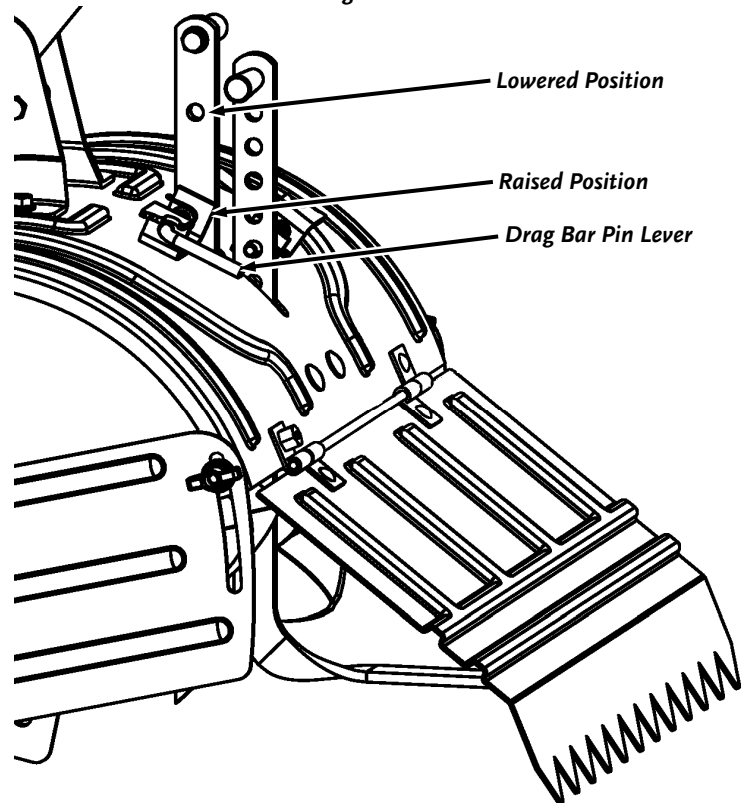

Figure 11
The drag stake (see Figure 11) should be raised when tilling in the counter rotating () till position. The drag stake should be lowered when tilling in the forward rotating () till position.
- Move both the depth stake pin lever and the drag stake pin lever to the unlock position (See Figure 8a, Illustration 2 & Figure 11). Hold the depth stake limiter to pull the depth stake up for increasing tilling depth. Place depth stake pin in the hole of the depth stake to lock in position at desired depth. Lower drag stake to the "Lowered position" (See Figure 11) and lock it in position.